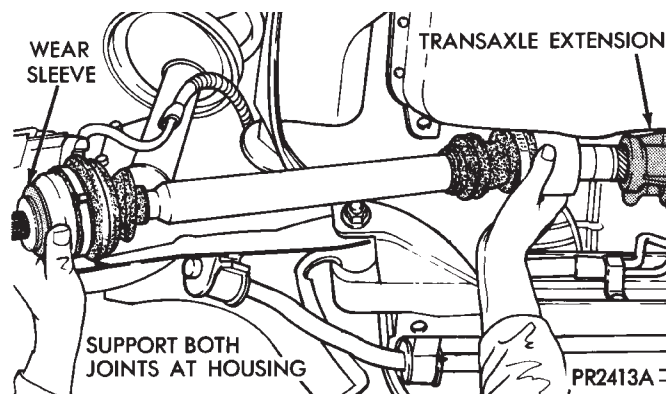

Fig. 10 Removing Driveshaft Assembly Unequal Length
(5) Support assembly at C/V joint housings. Remove by pulling outward on the inner joint housing. **DO NOT PULL ON SHAFT (Figs. 10 and 11).**